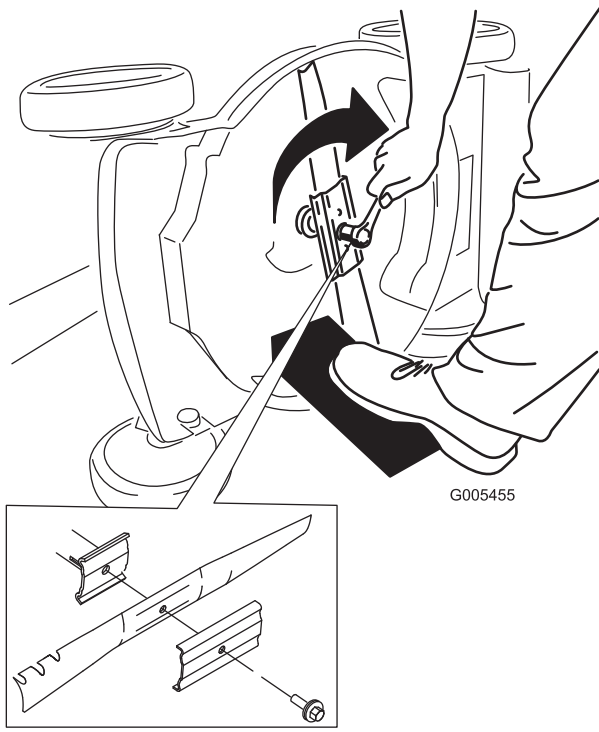

Figure 38
5. Install the new blade and all mounting hardware (Figure 38).